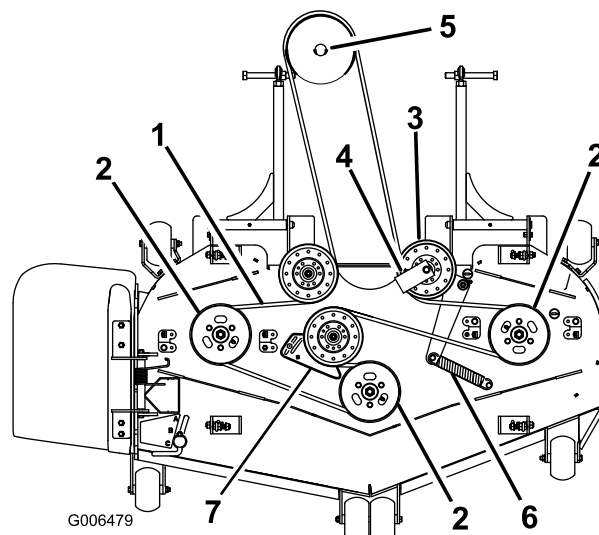
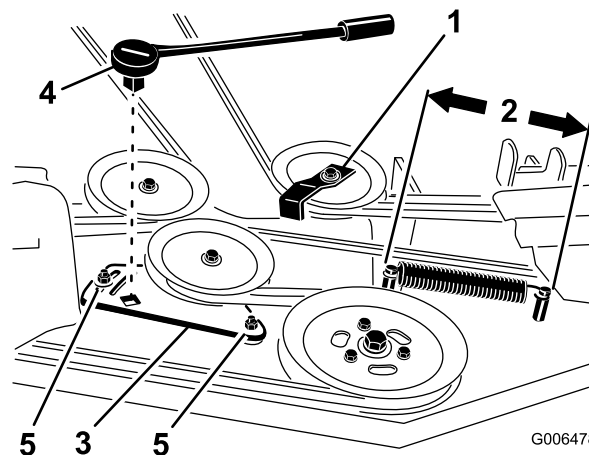

Figure 62
Figure 64
4. For 72 inch mowers, loosen the idler plate bolts holding the idler plate (Figure 64).
6. Remove the belt guide on the spring loaded idler pulley shown in Figure 62 and Figure 64.
8. Install the new belt around the mower pulleys and the gearbox pulley under the engine (Figure 62).
9. Install the belt guide on the spring loaded idler at a 45 degree angle as shown in Figure 62 and Figure 64. Torque the bolt to 27 to 33 ft-lb (37 to 45 N-m).
10. Install the idler spring to the two posts (Figure 62 and Figure 64).
4. Measure the spring length (Figure 64). If the spring length is between 10 and 10-1/4 inches (25.4 and 26.0 cm), from post to post, no adjustment is needed.
5. Loosen the bolts holding the idler plate (Figure 64).
6. Insert a ratchet or breaker bar into the square hole in the idler plate to adjust the tension (Figure 64).
7. Rotate the ratchet or breaker bar to move the idler plate until the idler spring is between 10 and 10-1/4 inches (25.4 and 26.0 cm) from post to post as shown in Figure 64.
8. While holding the belt tension and spring length, tighten the idler plate bolts that secure the idler plate (Figure 64).